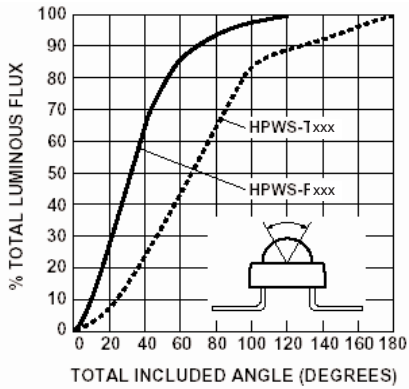

Figure 5. HPWS-xxxx Percent Total Luminous Flux vs. Total Included Angle.
4. $\theta_{0.90\ \text{V}}$ is the included angle at which 90% of the total luminous flux is captured. See Figure 5.